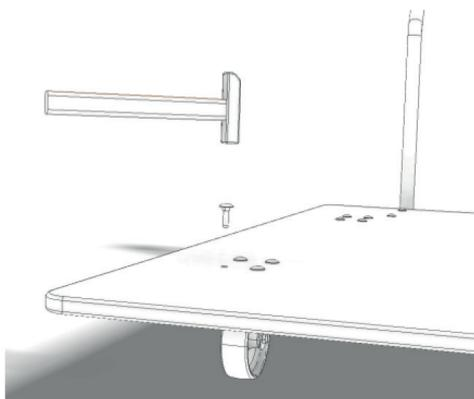

Figure 2: Attaching the castors
Start by attaching the 2 fixed castors (3) and the 2 swivel castors (4) to the base panel (1) (see figure 2).